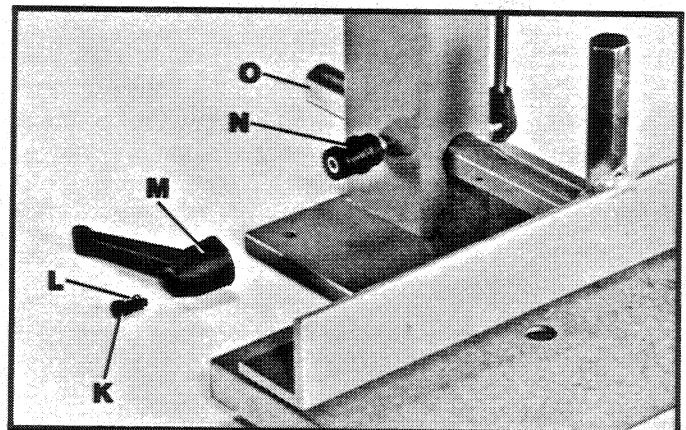

Fig. 9
8. Thread stud (N) Fig. 9, into hole on side of column and against flat (O) on fence bar.
9. Reassemble handle (M) Fig. 9, on stud (N) and replace screw (K) and spring (L).